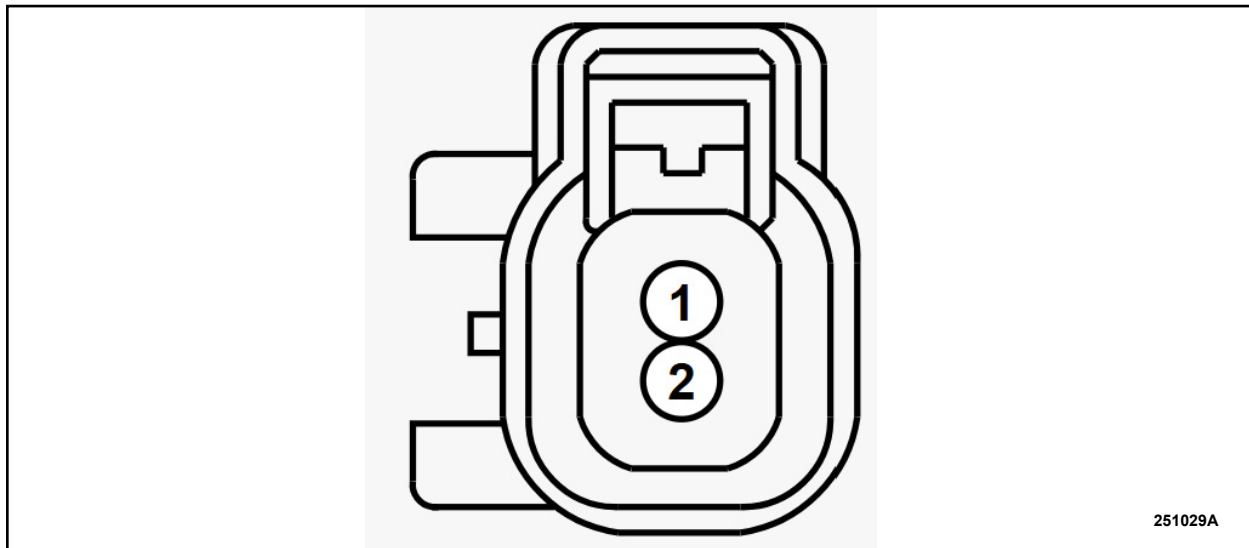

FIGURE 6
7. From the vehicle wiring harness -14406- install the Green/Brown (GN-BN) wire into pin 1 location and the Blue/Grey (BU-GY) wire into pin 2 location into the *new* connector C4558 hardshell. See Figure 6.